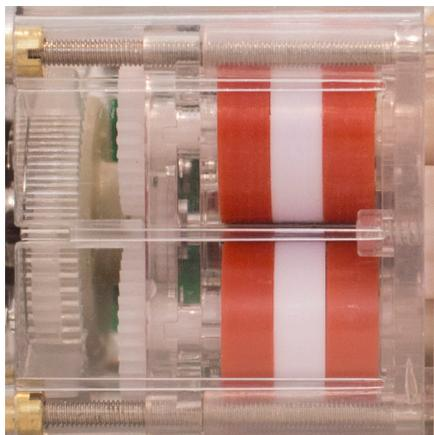

Figure 3
- c) Operate the blind and bring the blind to the mid-way position. At this point, by watching the discs (see fig 3) identify which limit switch controls the forward and backwards movements.